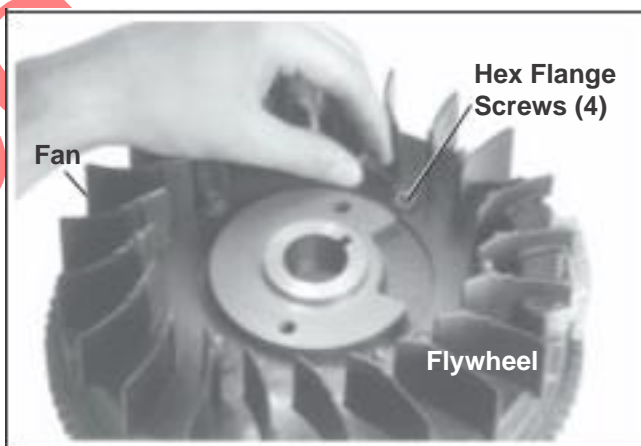

Figure 9-39. Removing Fan From Flywheel.
4. Remove the four hex flange screws and fan from flywheel. See Figure 9-39.